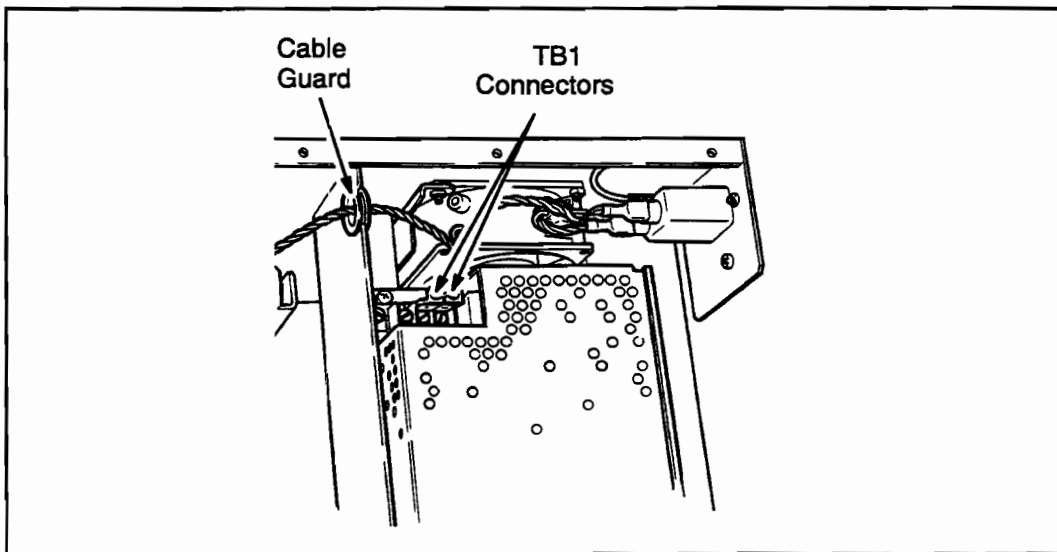

Figure 6-99. Power Receptacle Wiring
5. Disconnect the power receptacle wires at TB1 of the power supply by pulling up on the connectors. See Figure 6-99.